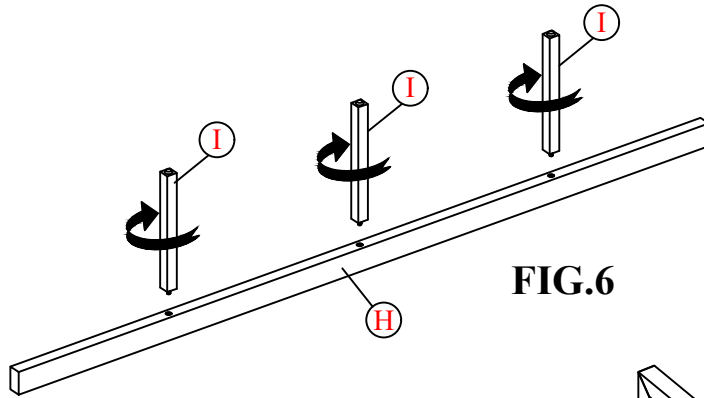

FIG.6
STEP 6: Attach Slats Support Legs (I) to Slats Support Bar (H) as shown in FIG.6